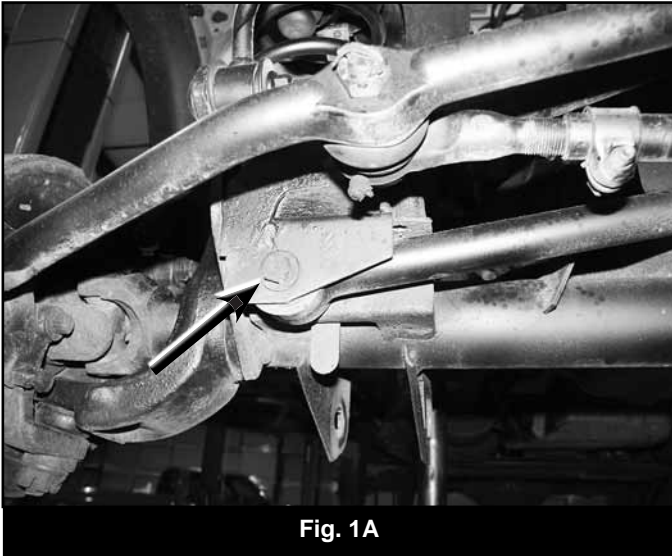

Fig. 1A
5. Disconnect the track bar from the axle and the frame (Fig 1A, B). Disconnect the track bar from the frame by remove the cotter pin and nut. Strike the track bar mount near the track bar end with a hammer to release the tapered end from the frame mount. Remove and discard the track bar and hardware.